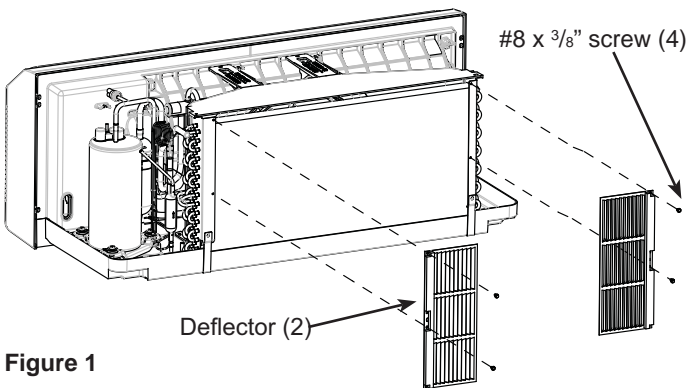

Figure 1
On models with straight outdoor coils, mount grills as shown in Figure 1 ensuring the foam gasket is facing away from the chassis. Install two (2) #8 x 3/8" screws per grill to secure.
- On models with "L" shaped outdoor coils, mount left hand grill as shown in Figure 1 ensuring the foam gasket is facing away from the chassis. Install two (2) #8 x 3/8" screws on sheet metal end of coil (left side when looking at the back on unit).